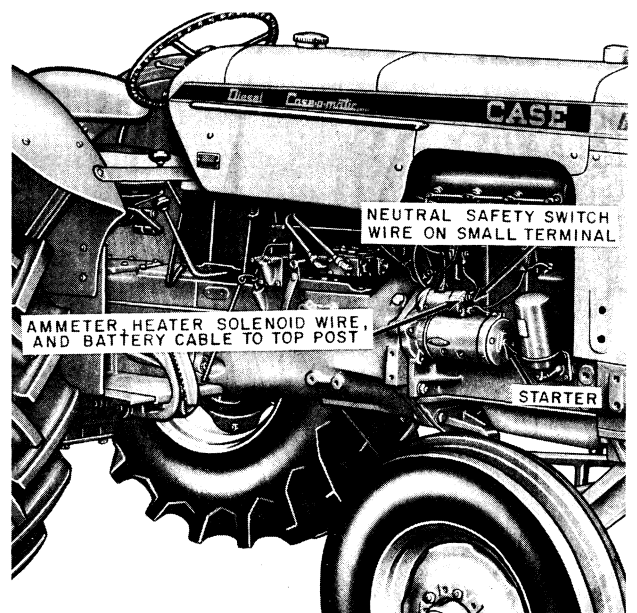

Fig. A-25 Removing Wiring from Starter
10. Disconnect electrical wires from starter solenoid. Fig. A-25.